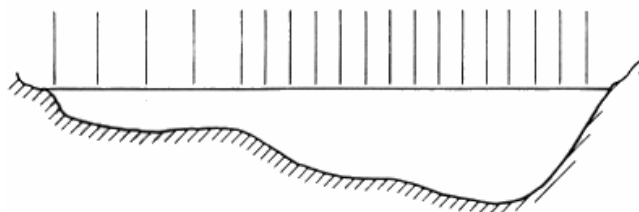

Figure 4. Unequally spaced observation points
- This is in addition to the 2 points which define channel edges. Previous measurements statistics may help define the optimum distribution of verticals. In general, where depths and velocities are greater, space verticals more closely together. Where depths and velocities are smaller, the distance between verticals should increase. Figure 4 illustrates a typical distribution of verticals.